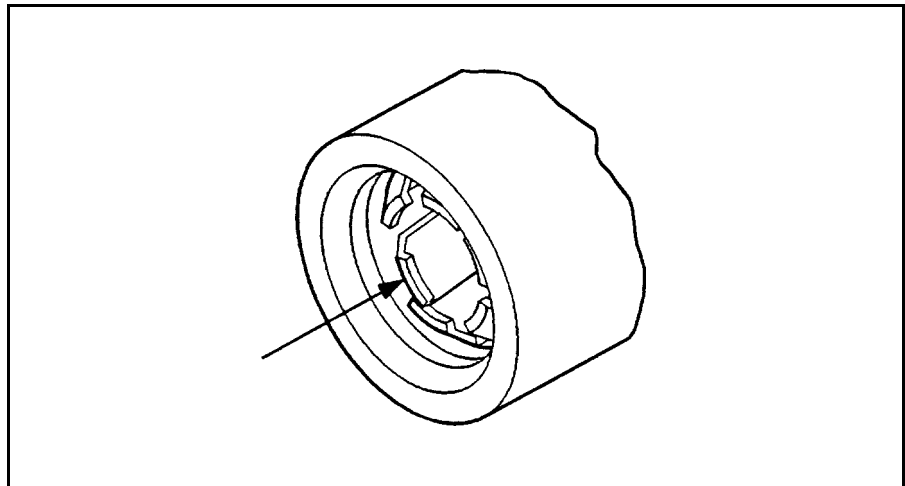

Figure 2-1. Finger Bent In or Crushed
- The inner contact has one or more fingers bent inward or crushed, preventing proper contact to the male pin (see Figure 2-1).